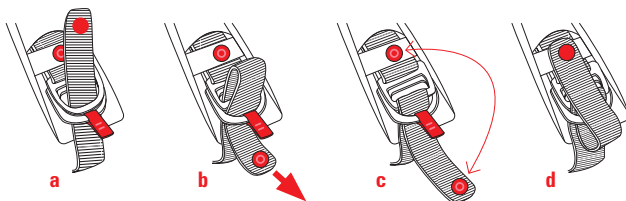

Figure 3
- To fasten the Chinstrap, insert the end of the Chinstrap inside the double D rings system following the order set-out in Figure 3, then pull the Chinstraps tight against your throat. Then to secure the loose end of the Chinstrap, snap the button until it audibly clicks into place.